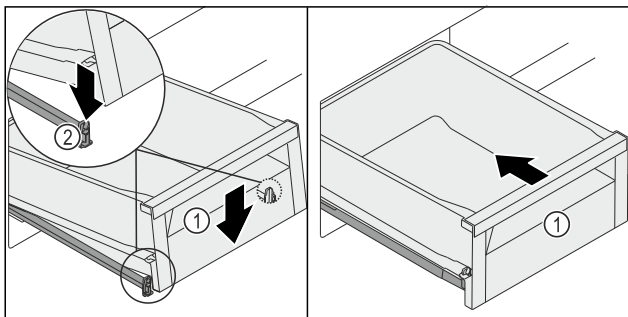

Fig. 124
- ▶ Lower the front of the drawer Fig. 124 (1) so that the drawer slides into the clamp Fig. 124 (2) on the left and right.
- ▶ The drawer Fig. 124 (1) latches in audibly.
- ▶ Push in the drawer Fig. 124 (1).